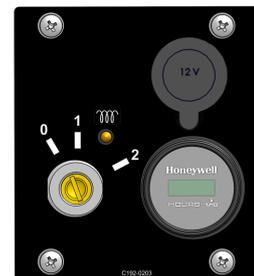

Figure 15 - Control Panel
2. Insert the ignition key in the control panel and turn to position 1 (Figure 15).
3. Confirm that the heater LED comes on (Figure 15).
5. Turn the ignition key to the start position (2) (Figure 15).